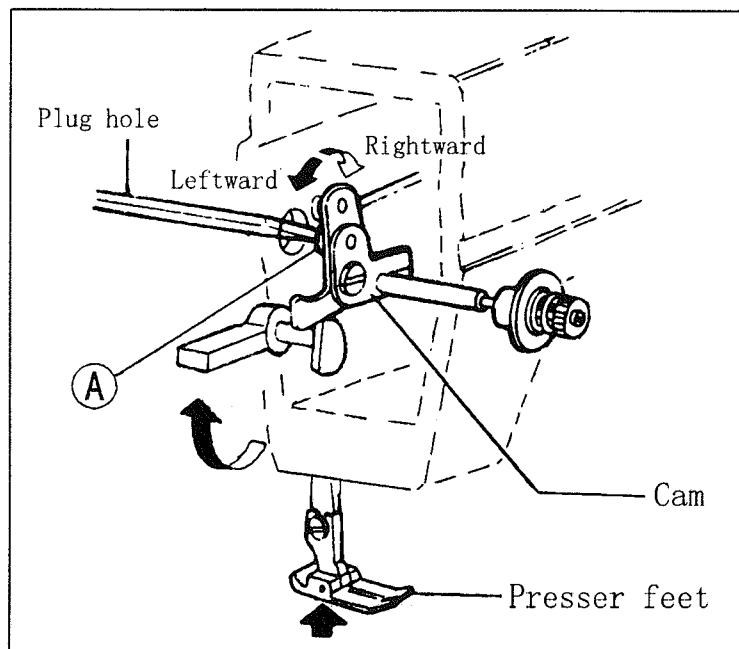

Fig. 30
21. ADJUST OPENING TIME OF THE TENSION DISCS (Fig.30)